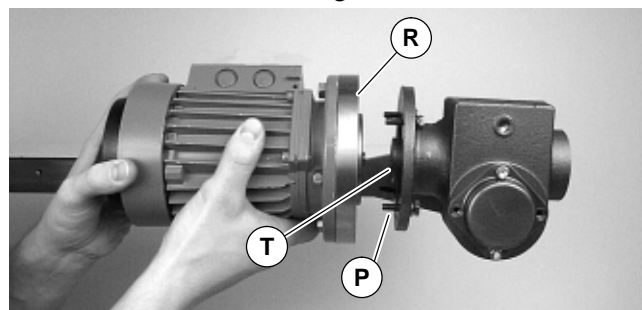

Figure 22
6. With key (T of Figure 22) in keyway, slide motor with adapter flange (R) and gear reducer together. Install screws (P) and tighten.